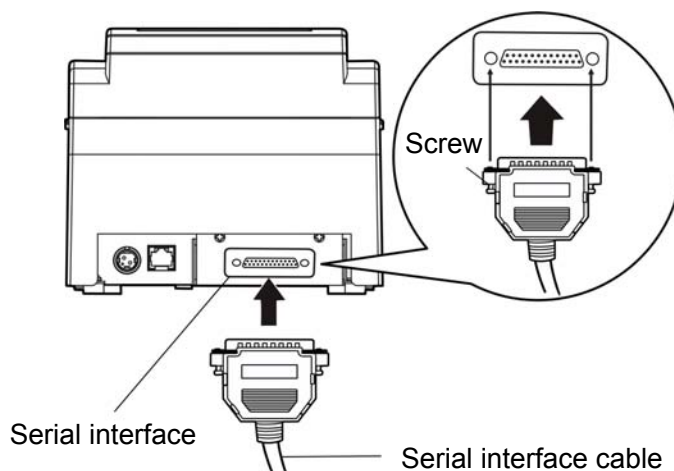

Figure 2-5 Connecting the serial interface cable
1. Make sure that the host computer and the printer are both turned off, connect the serial interface cable to the connector of the printer and tighten the screws as shown in Figure 2-5.